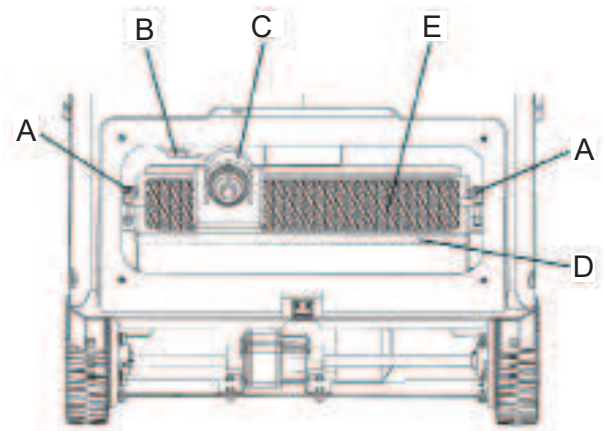
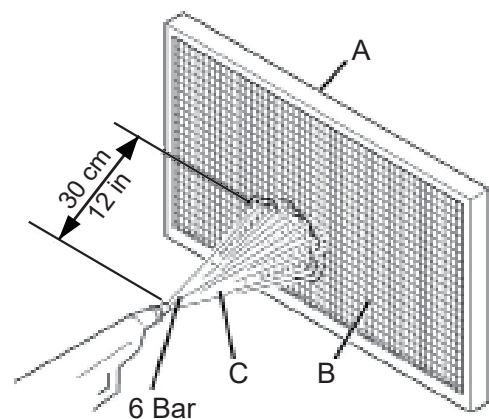

Figure9
Figure10
- 1) Drive the machine on a level floor and release the pedal (2) and stop the machine.
- 3) Disengage the hook (29) by pulling its lower end.
- 4) Remove the hopper (28) by using the handle (30) and by using hand and by disengaging it from the inner guides.
- 5) Unscrew the knobs (37) and remove the filter compartment cover (36).
- 6) Loosen the knobs (A, Fig.9).
- 7) Disconnect the connector (B, Fig.9) from the filter shaker motor (C).
- 8) Remove the dust filter fastening frame (D, Fig.9).
- 9) Remove the dust filter (E, Fig. 9).
- 10) In an outdoor area, clean the filter by shaking it on a level and clean surface, tapping the side (A, Fig. 10) opposite to the wire gauze (B).
- Complete the cleaning procedure by using compressed air (C, Fig. 10) at maximum 6 Bar, blowing only from the side of the wire gauze (B), at a minimum distance of 11.8 in (30 cm).
- 12) Clean the rubber gasket (A, Fig.10) of the cover (36) and check it for integrity and efficiency; if necessary replace it.
- Install the filter (E, Fig. 9) with the wire gauze (B, Fig. 10) facing upwards.